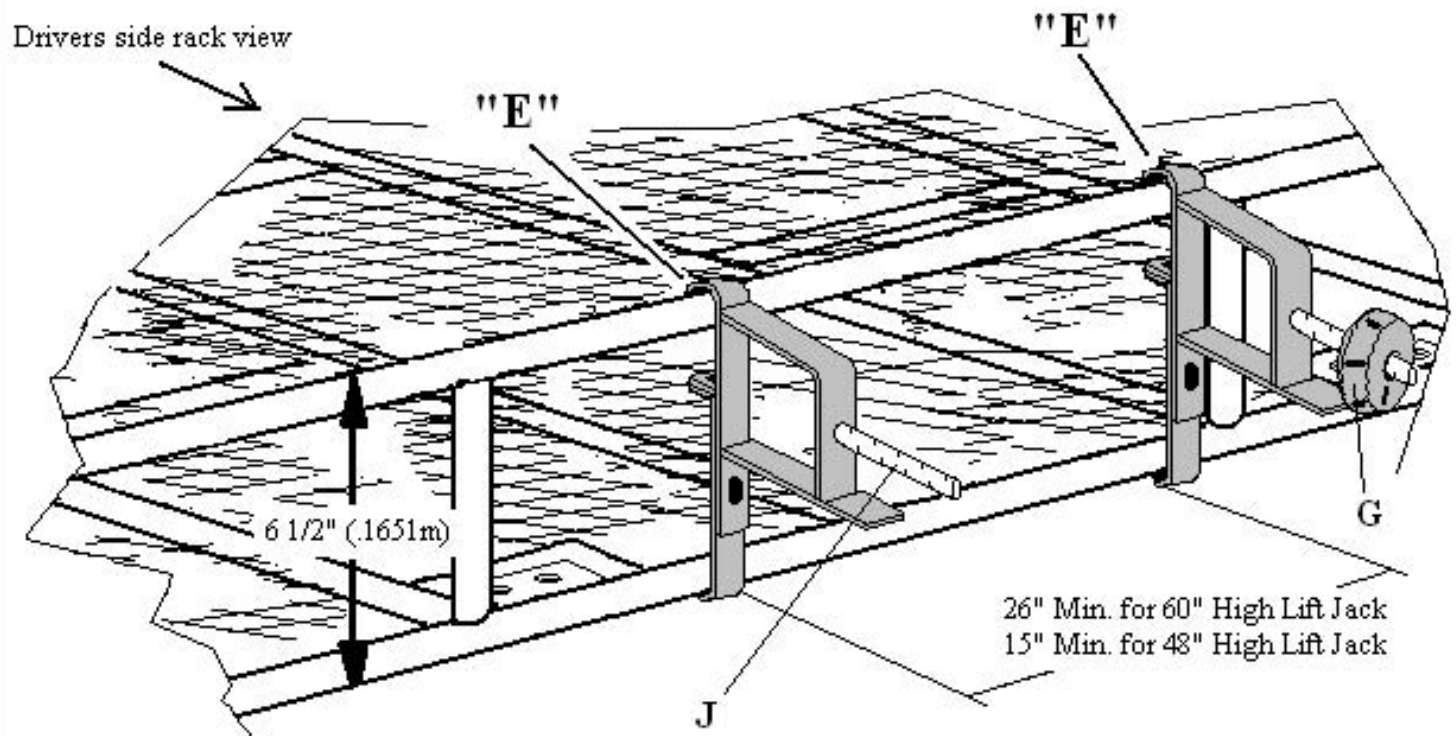

Fig. 5
- 4 - Install the second High Lift Jack bracket "E" onto the rack tubing approximately 15" (381mm) or 26" (660mm) depending on your High Lift Jack length from the first set of brackets as shown in Fig. 5 page 5 and follow the same procedure as when previously installing the first High Lift Jack bracket, finger tighten the bolts and nuts at this time.